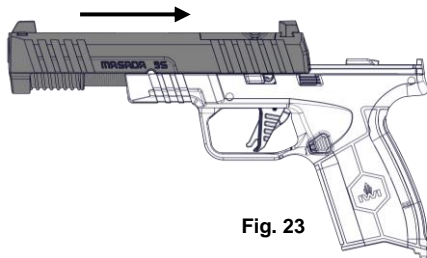

Fig. 23
3. Mount the slide on the frame and move the slide to the rear so that the rails on the frame align to the rails on the slide. (Fig. 23).